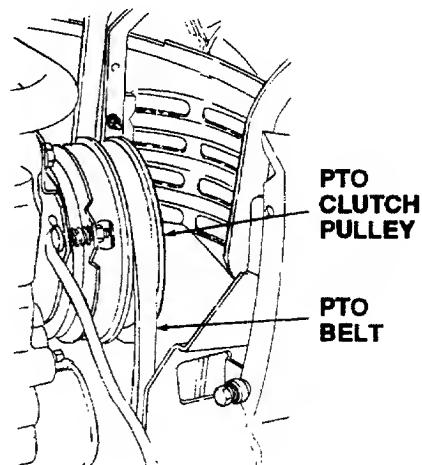

Figure 38
6. Remove the forward end of the PTO belt from the engine PTO clutch pulley. (Refer to Figure 38.)